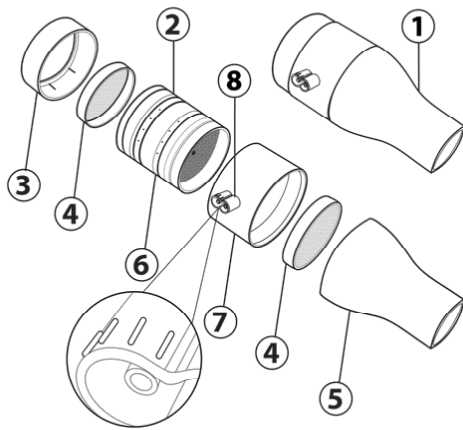

Fig 1: Flowhead Assembly
6. Fit flow conditioning meshes to both the flowhead cone and the flowhead end cap. (See Fig 1, Flowhead Assembly.)